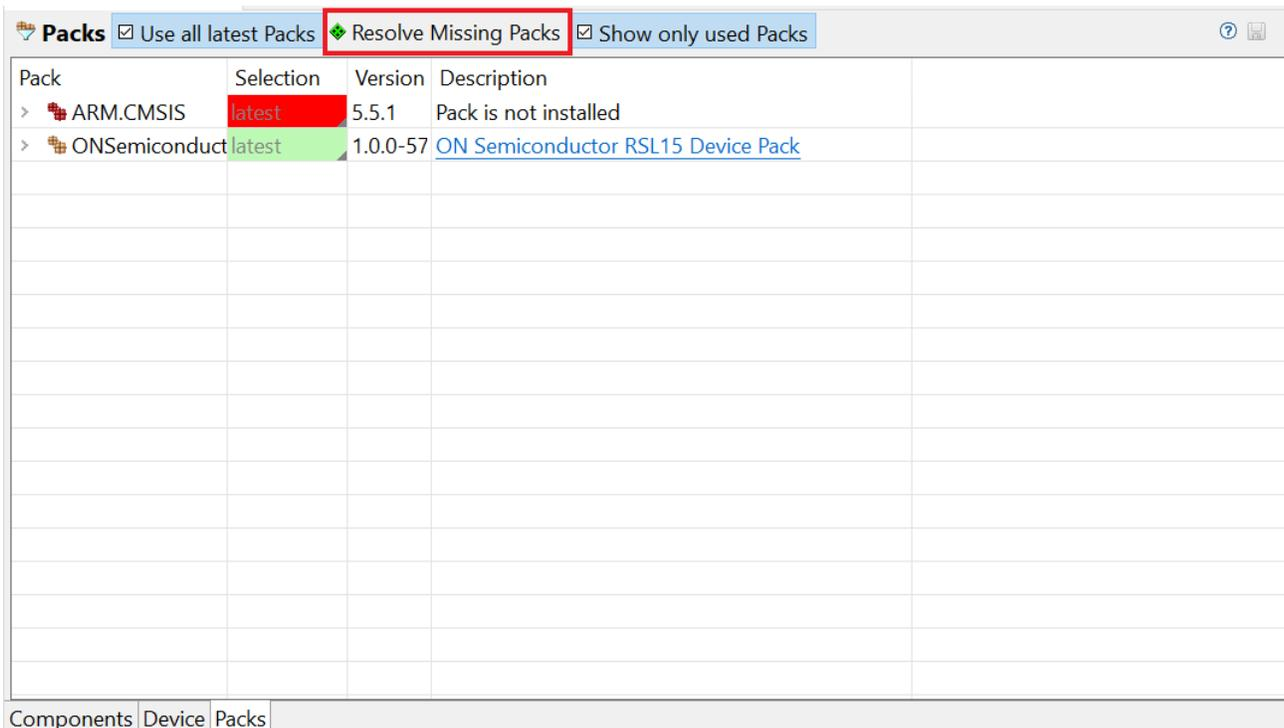

Figure 47. Resolve Missing Packs Icon
- Open the **.rteconfig* file; in the **Packs** tab, select the **Resolve Missing Packs** button (see the "Resolve Missing Packs Icon" figure (Figure 47)).